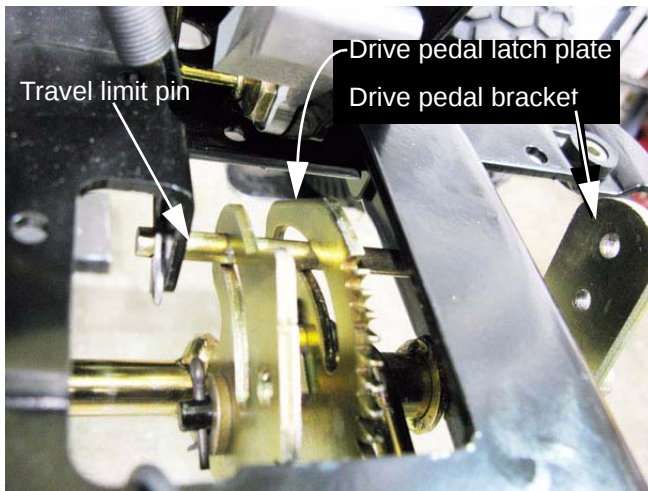

Figure 5.7
6. Check the drive control linkage. See Figure 5.7.